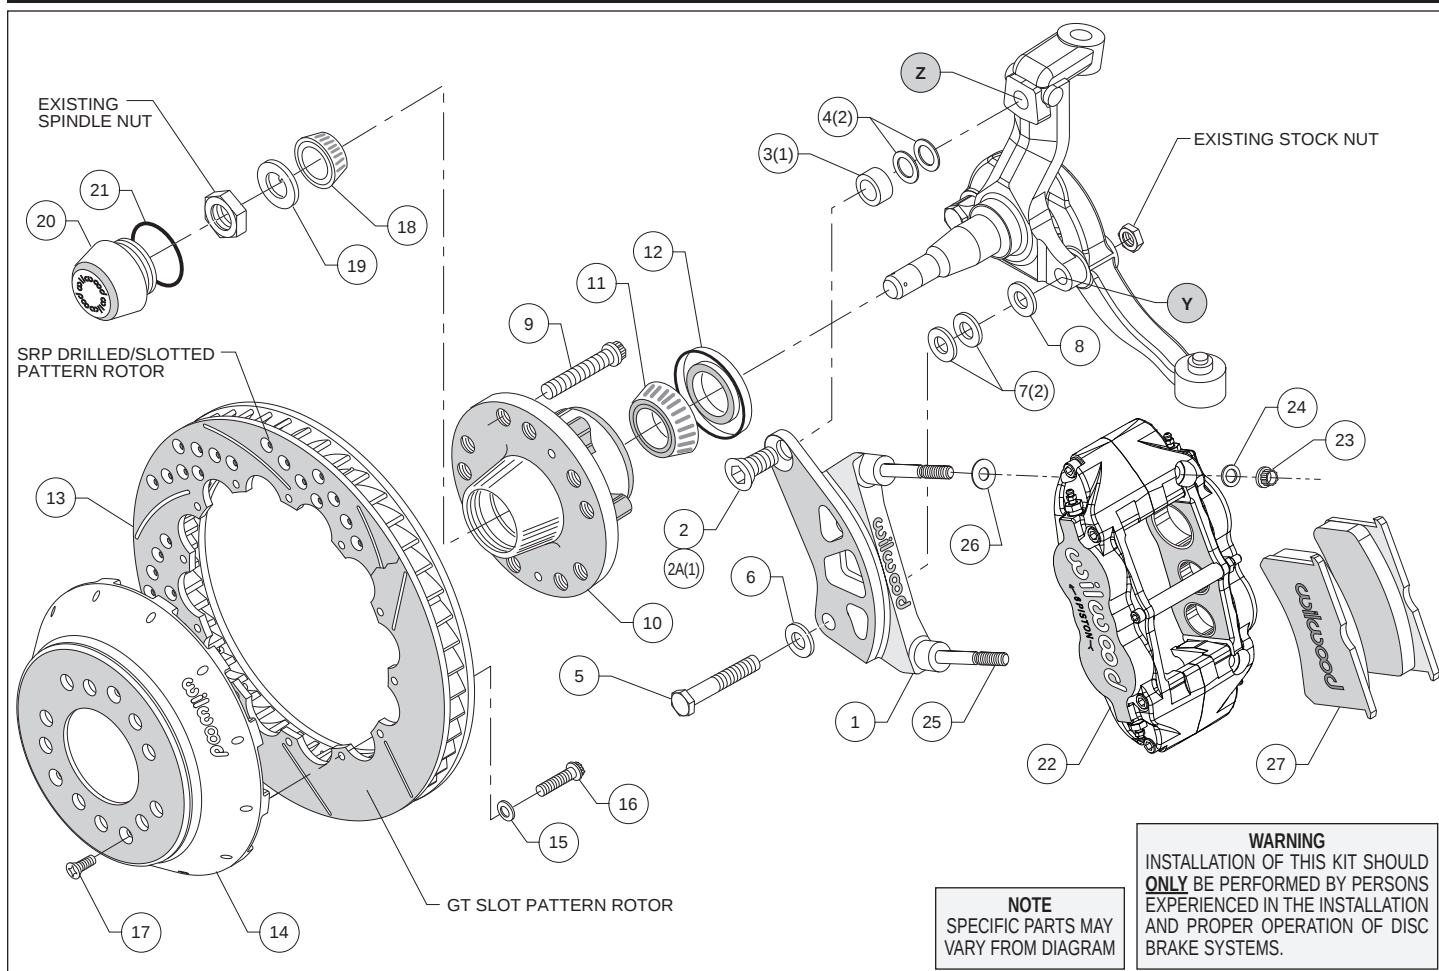
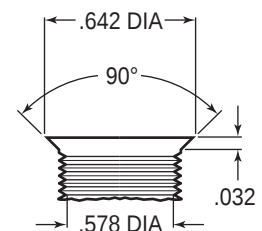
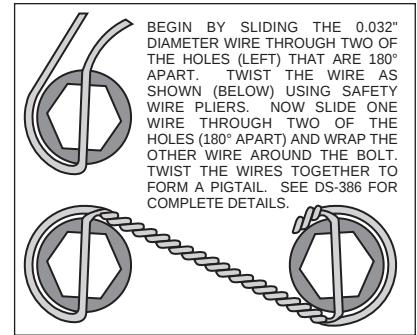

Figure 1. Typical Installation Configuration
Figure 3. Drill and Tap Detail
Figure 4. Safety Wire Diagram
•**NOTE:** 1964-66 spindles may require the following modifications (reference figure 1 and 3): Top anchor pin hole (Z) must be drilled and tapped to the dimensions as outlined in figure 3. Bottom rear steering arm bolt hole (Y) in the spindle and steering arm must be enlarged to .50" by drilling. A 1/2-20 backing nut (not supplied in kit) will need to be acquired to torque bracket / steering arm bolt (supplied in kit).
•**Disc Application:** The caliper mount bracket assembly (1) should be installed first with clean, dry threads on the mounting bolts. Mount bracket (1) to face of dust plate mount pad of spindle using the bottom bolt (5), through washer (6) while positioning washer (7, Heidts spindle kit only) and shim washer (8) "if needed for bracket flatness" between bracket and spindle face, finger tighten only. Install the upper bolt (2A) with spacer (3) and flat washer (4, Heidts spindle kit only), ensuring flatness positioned between bracket and top hole of spindle face. Inspect for interference from casting irregularities, machining ridges, burrs, etc. If everything fits correctly, then remove the mounting bolts (2A and 5) and coat threads with red *Loctite*® 271 and reinstall. Torque bolt (2A) to 120 ft-lb. Torque bolt (5) to 77 ft-lb.
•**Drum Application:** The caliper mount bracket assembly (1) should be installed first with clean, dry threads on the mounting bolts. Mount bracket (1) to face of dust plate mount pad of spindle using the bottom bolt (5), through washer (6) while positioning washer (8) between bracket and spindle face, finger tighten only. Install the upper bolt (2). Inspect for interference from casting irregularities, machining ridges, burrs, etc. If everything fits correctly, then remove the mounting bolts (2 and 5) and coat threads with red *Loctite*® 271 and reinstall. Torque bolt (2) to 120 ft-lb. Torque bolt (5) to 77 ft-lb.
•Install wheel studs (9) into the hub (10). Torque to 77 ft-lb. **NOTE:** There are two five lug patterns in the hub (5 x 4.50 and 5 x 4.75). Make sure of the correct hole pattern for the correct wheel application before installing studs into hub.
- With the larger I.D. side of the rotor (13) facing away from the hat (14), bolt rotor (13) to hat (14) through the backside of the rotor using washers (15) and bolts (16). Using an alternating sequence, apply red *Loctite*® 271 to the threads and torque bolts to 155 **in-lb**. For an added measure of security, the bolts may be safety wired using standard 0.032 inch diameter stainless steel safety wire as shown in Figure 4. Please refer to Wilwood's data sheet DS-386 (available at www.wilwood.com/Pdf/DataSheets/ds386.pdf) for complete safety wire installation instructions.
- Slide the rotor/hat assembly over the studs (9) in the hub (10) taking care to align the small countersunk holes in the hat (14) with the small threaded holes in the hub (10). Install three flat head socket screws (17) through the small holes in the hat (14) and torque to 85 **in-lb**.
- NOTE:** This kit contains distinct right and left hand calipers that must be mounted in a specific direction, as described below. Lubricate the caliper mounting studs (25) with lightweight oil. Initially place one .035" thick shim (26) on each stud as shown in Figure 1. Mount the caliper (22) onto the bracket (1) using lock nuts (23) and washers (24), Figure 1. Ensure that the caliper is mounted so that the largest pistons are at the rotor exit end of the caliper, in relation to the direction of rotor rotation.
- Remove the caliper center bridge pad retainer bolt, nut, and tube from the caliper. Slide the brake pads (27) into place. They should install easily without interference. Check that the outside radius of the brake pad is aligned with the outside diameter radius of the rotor face. Add or subtract shims (26) between the caliper and mount bracket to gain the proper alignment. Lubricate caliper mounting studs and nuts with lightweight oil, reinstall the caliper and torque the caliper nuts (23) to 30 **ft-lb**. Reinstall the center bridge pad retainer tube, bolt, and locknut. The locknut should be snug without play in the bolt or tube. Be cautious not to over tighten.